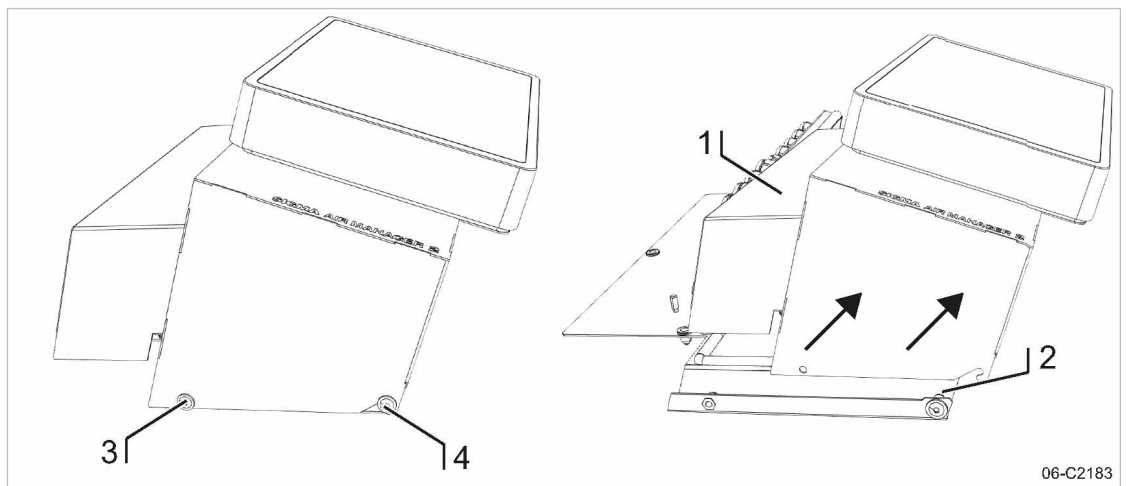

Fig. 7 Removing the control cabinet cover
- ① Control cabinet cover
- ② Base plate
- ③ Flat mushroom-head screw M 6x16, SW4
- ④ Flat mushroom-head screw M 6x16, SW4
6. Separate the control cabinet cover ① (enclosure cover with SAM 2 terminal) from the base plate ② as follows.
7. First, use the SW4 wrench to unscrew the two screws ③, then loosen the two screws ④ and carefully lift the control cabinet cover ① in arrow direction (see Fig. 7).
8. Place the control cabinet cover ① onto a suitable surface ⑦ (protected from dirt and scratching).
9. Properly attach the base plate ② to the wall. A template for the bore holes is provided in the annex (see chapter 13.1).